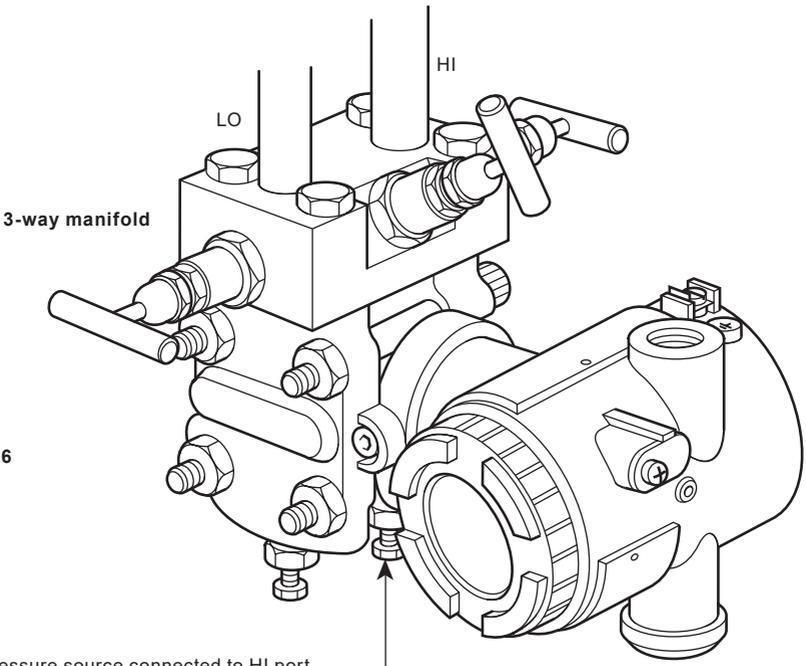

Fig. 16
- 7.2.7 Using a suitable precision pressure source attached to the HI pressure port of the DP transmitter as shown in Figure 16, apply a pressure corresponding to the set pressure of the unit.